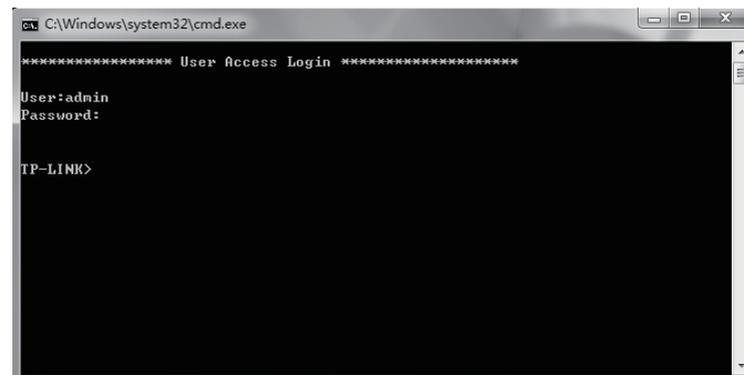

Figure 5-7 Login in the switch
4. Type the User name and Password (the factory default value for both of them is admin) and press the Enter button, then you can use the CLI now, which is shown as Figure 5-7.